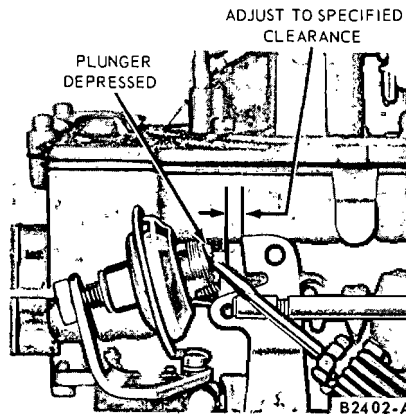

FIG. 34—Anti-Stall Dashpot Adjustment—Typical For Autolite 2-V and 4-V
1. With the engine idle speed and mixture properly adjusted, and the engine at normal operating temperature, loosen the anti-stall dashpot lock nut (Fig. 34).